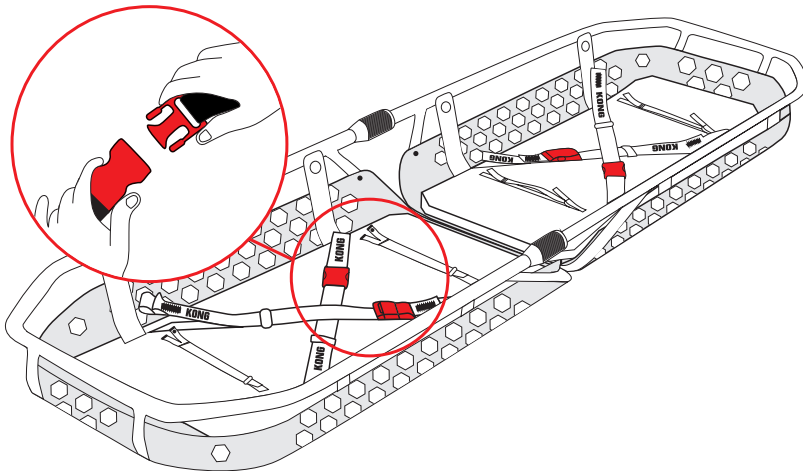

Fig.9
- a) unhook the buckles and open the securing straps (fig. 9),